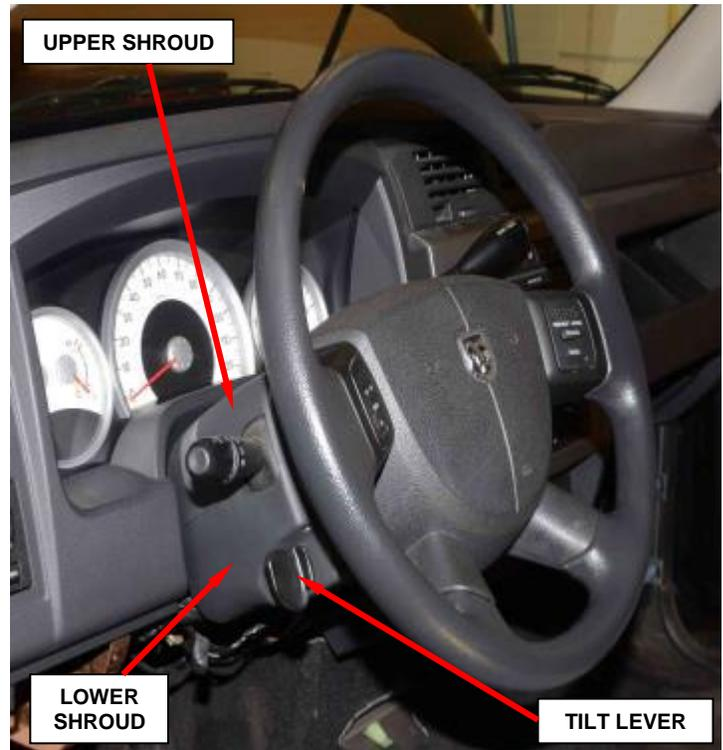

Figure 66 – Steering Column Shrouds
9. Remove the steering column tilt lever knob (Figure 66).
10. Remove the three screws from the lower steering column shroud and remove the upper and lower shrouds (Figure 66).